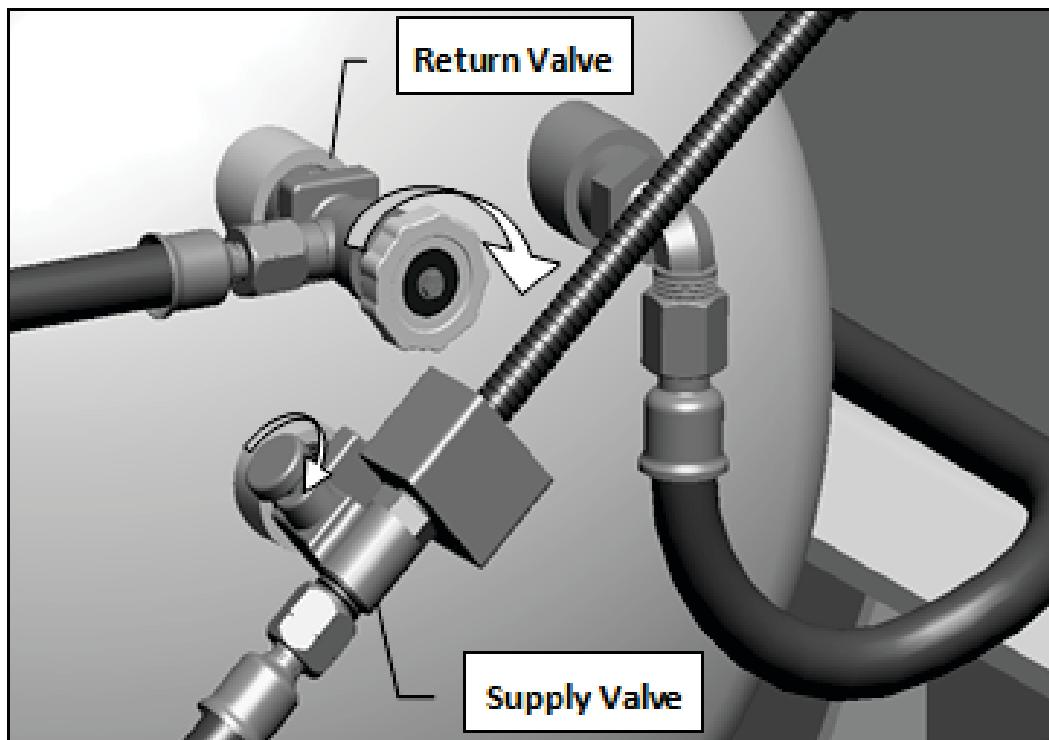

Figure 3C Thomas Built - SAF-T-Liner® C2 Valve Location
- 3) Locate the return valve. (Figure 3C)